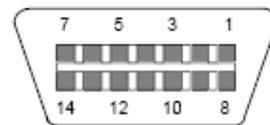

Figure 2-2: Pin assignments for the Load Cell Port
1. Plug the load cell's cable into LOADCELL Port on the rear panel of the indicator. Show in figure 2-2.